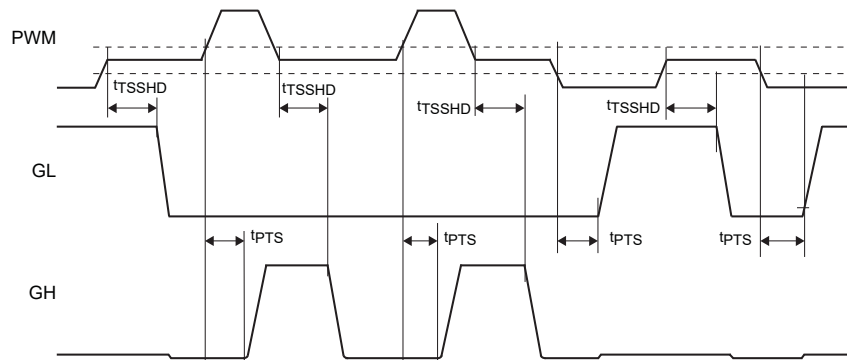

Figure 2. PWM Tri-State Input Logic Timing Diagram
The PWM is also a tri-state compatible input. When the input is high impedance or unconnected both the gate drives will turn off and the gates are held active low. The PWM Threshold Table in Table 1 lists the thresholds for high and low level transitions as well as tri-state operation window. As shown in Figure 2, there is a hold off delay between the corresponding PWM tri-state signal and the output gate drive being pulled low. This delay is typically 175ns and intended to prevent spurious triggering caused by tri-state mode entrance
**Note:** See Figure 2 for propagation delays and tri-state window.